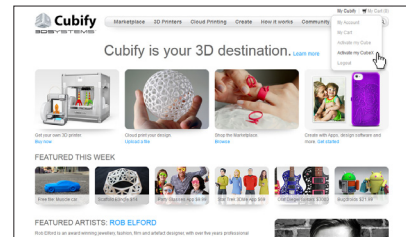

Fig. 14
- In My Cubify drop down menu, Click on Activate my CubeX. (Fig. 14)